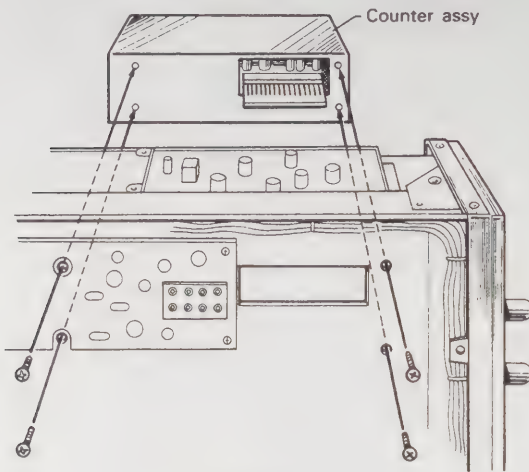

Fig. 15
- 1) For the mounting procedure of the counter assembly, refer to **Fig. 15** "Modification first option mounting procedure".